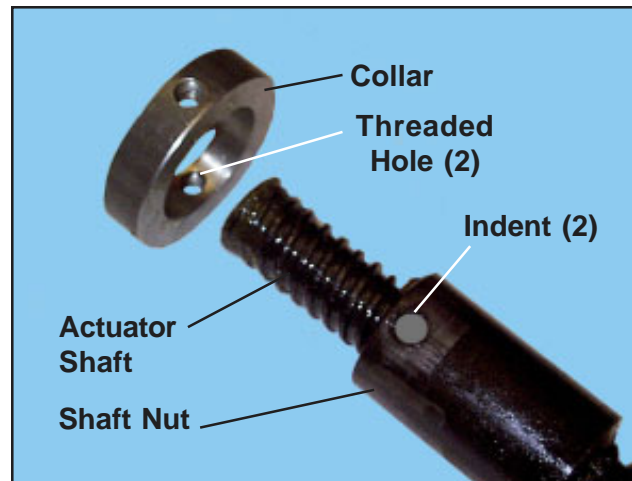

Figure 31. Mounting the Collar to the Shaft Nut
17. Slide the collar off the shaft nut and the actuator threaded shaft (Figure 31).
2. Slide the collar onto the shaft nut on the actuator threaded shaft (Figure 31).